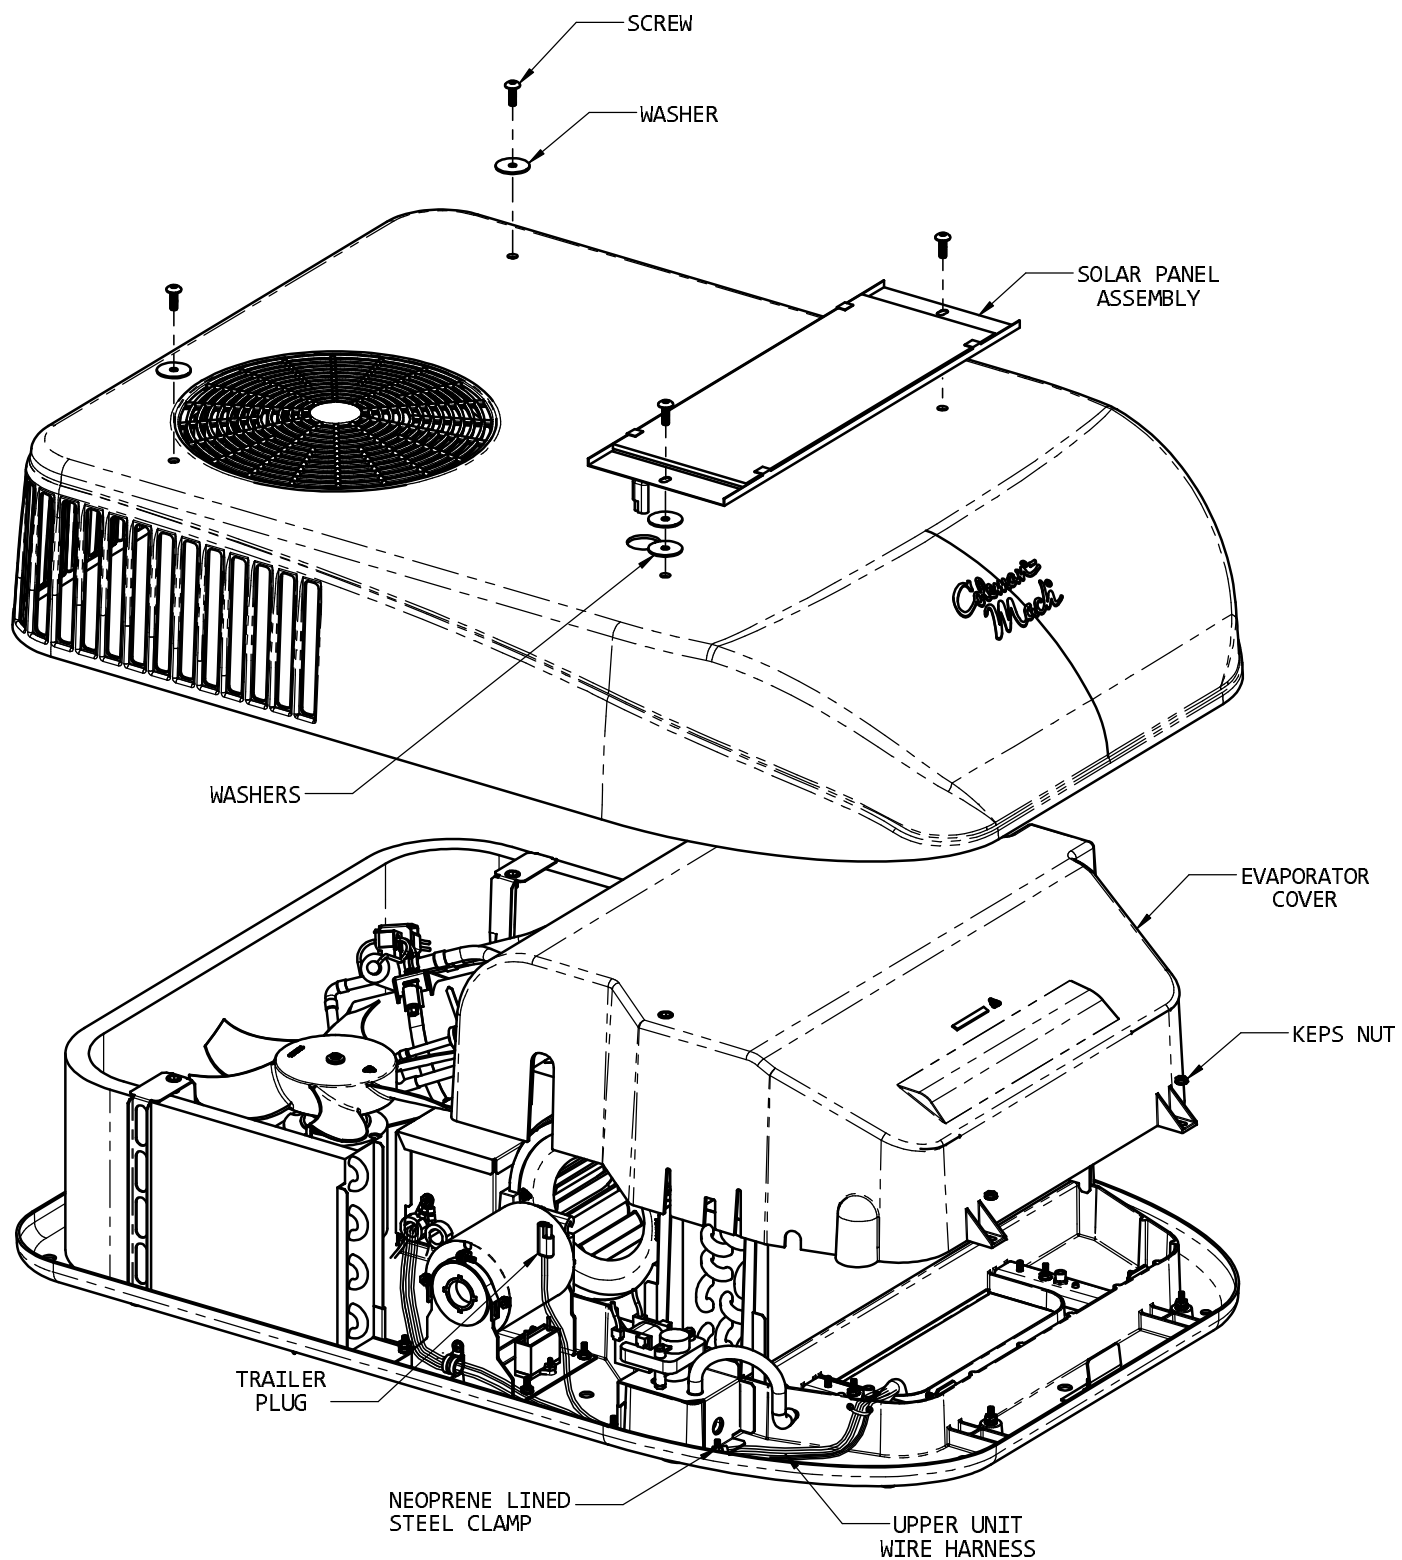

FIGURE 4
5. Remove the neoprene lined clamp shown in Figure 4. Place the solar harness assembly (long) with the unit wiring bundle, allowing 24" between the clamp and the end of the trailer plug. Reinstall the neoprene lined clamp securing the solar harness assembly with the unit wiring bundle.